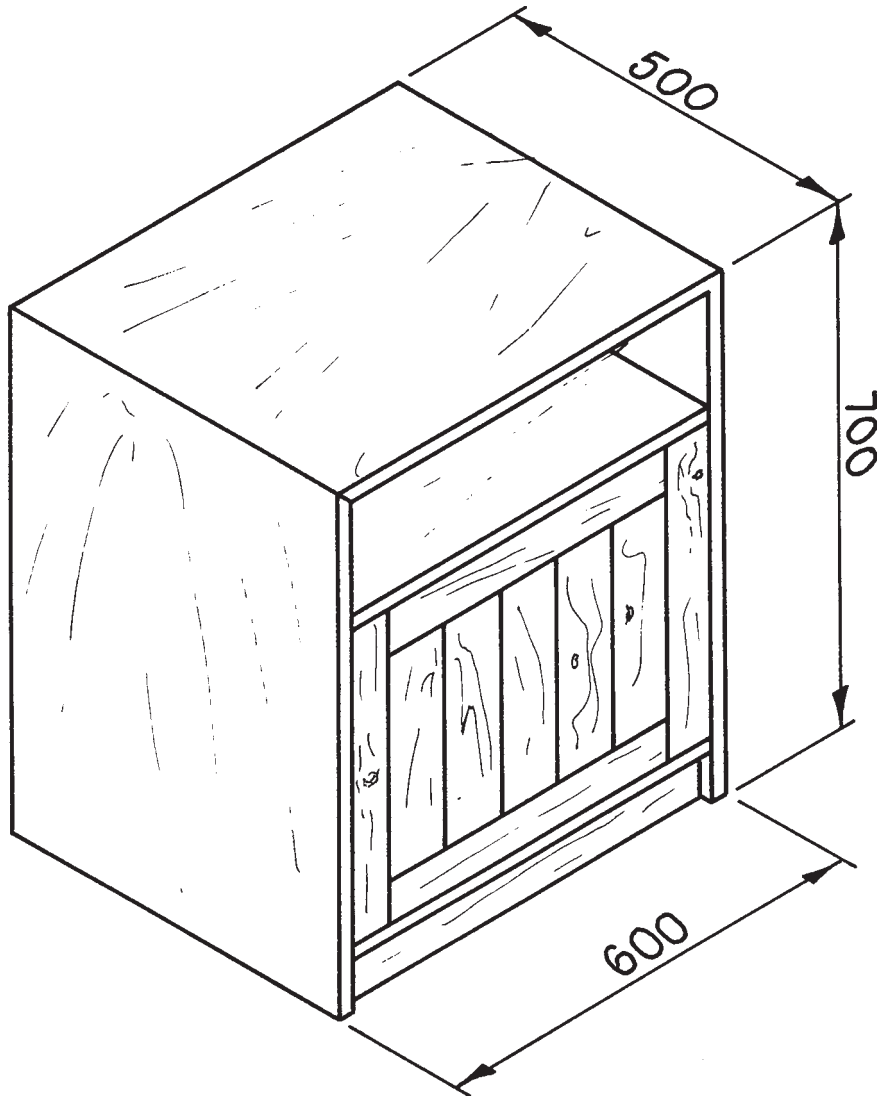

FIG. 5. SMALL CABINET
- (c) A small cabinet, shown in Figure 5 below, is to be manufactured using pine-veneered particle board.